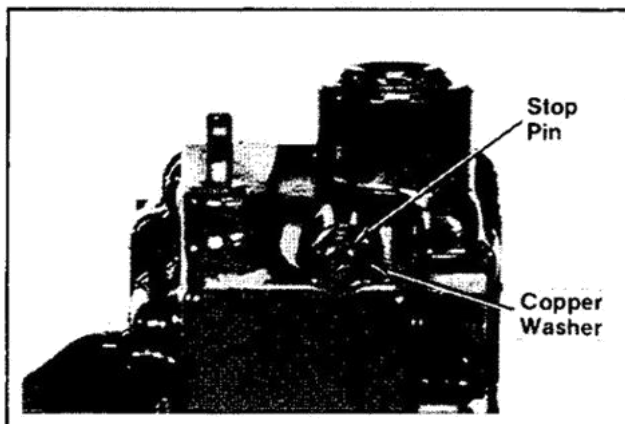

Figure 9-42. Removing Governor Stop Pin.
1. Remove the governor stop pin and copper washer. Refer to Figure 9-42.